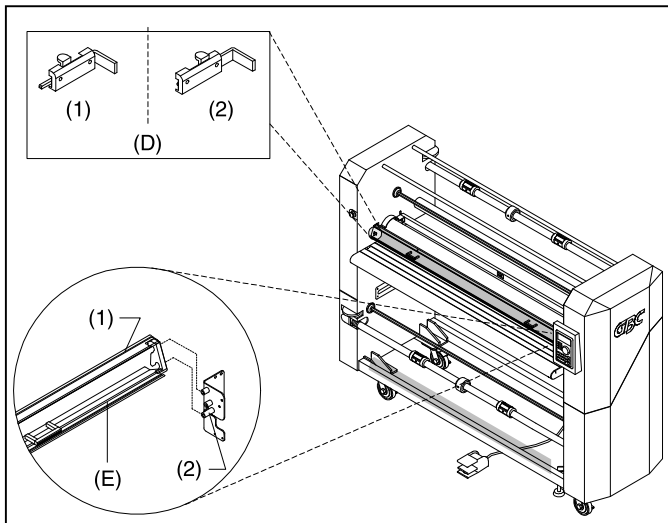

Fig. 11
**D. SAFETY SHIELD INTERLOCK LATCH:** (Figure 11) Used to lock the safety shield into position and activate an interlock switch. The interlock latch is located on the left side of the safety shield. When pushed to the pull left (1), the safety shield is locked. When pushed to the pull right (2), the safety shield is unlocked.
**E. SAFETY SHIELD:** (Figure 11) Prevents entanglement, entrapment and injury contact with the heat rollers. **The laminator will operate only when the Safety Shield is located in the fully locked and closed position. Power to the motor is removed when the shield is in the open position or the interlock latch is unlocked.**